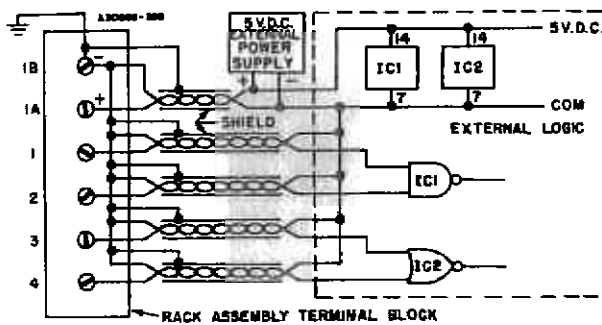

Figure 1 - Typical Wiring
Figure 1 illustrates the typical wiring for the Type COM-261
- The polarity of the power supply connected to the rack assembly terminals "A" (+) and "B" (-) must be as indicated or damage to the module will occur (Figure 1).
- The output common terminal "B" on the I/O rack assembly should be connected to ground to minimize noise susceptibility. Each individual cable shield must also be connected to the common terminal "B" on the rack. The other end of the shield must be left unconnected (Figure 1).